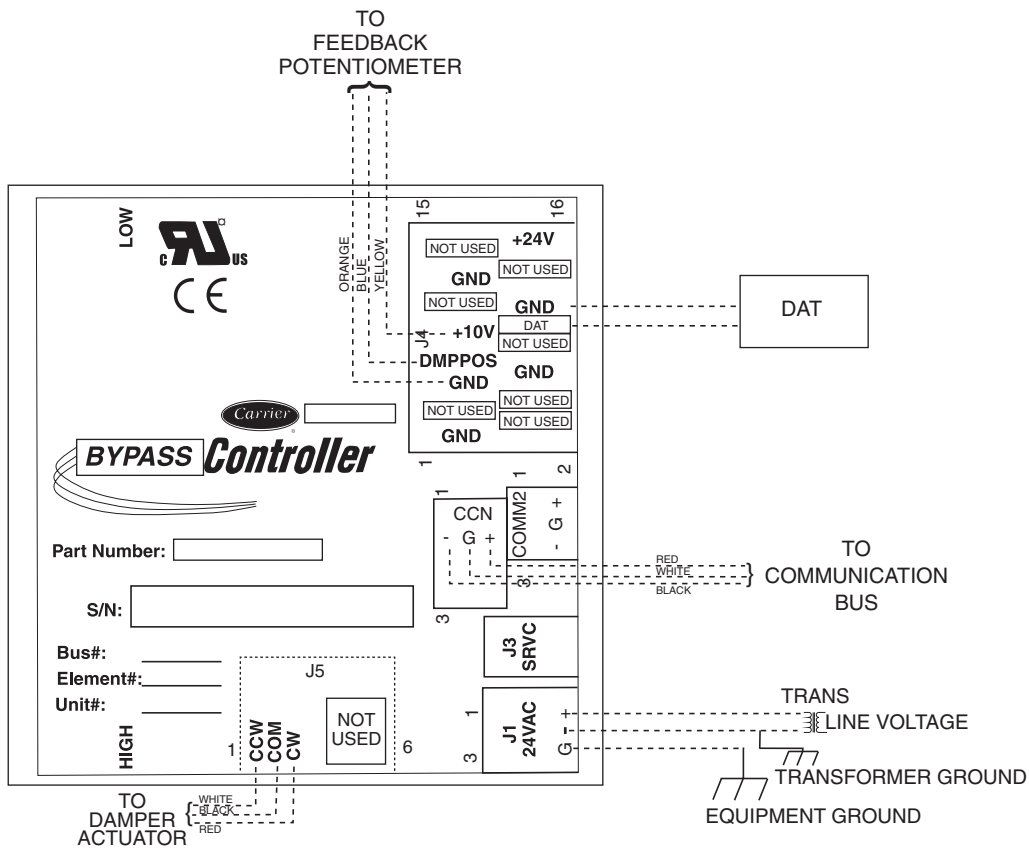

Fig. 4 — Bypass Controller Wiring
2. Connect 24 vac from the transformer as shown in the applicable wiring diagram (Fig. 4). Be sure to observe polarity when connecting the transformer power. The grounded terminal must be connected to the transformer ground terminal as shown.
3. Connect the sensor leads to the bypass controller's terminal board at the terminals labeled DAT (J4-10) and GND (J4-12). See Fig. 4 for wiring. If extending cable length beyond 8 ft, use plenum rated, 20 AWG (American Wire Gage), twisted pair wire. Sensor wiring does not have polarity. Either lead can be wired to either terminal.